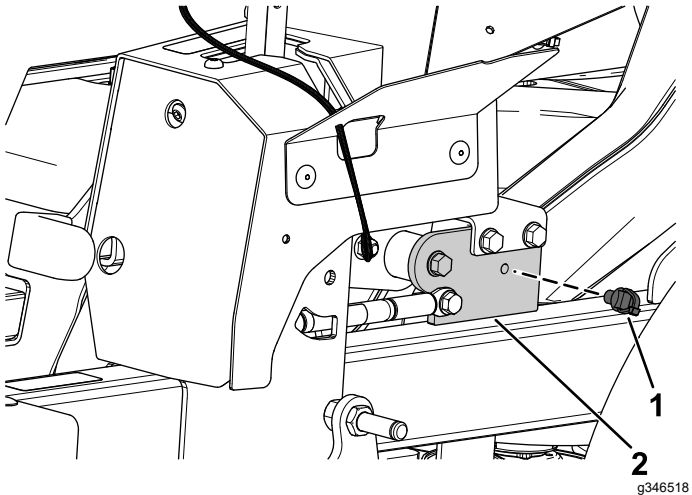

Figure 11
1. Install the front push-mount fastener into the parking-brake lever bracket (Figure 11).